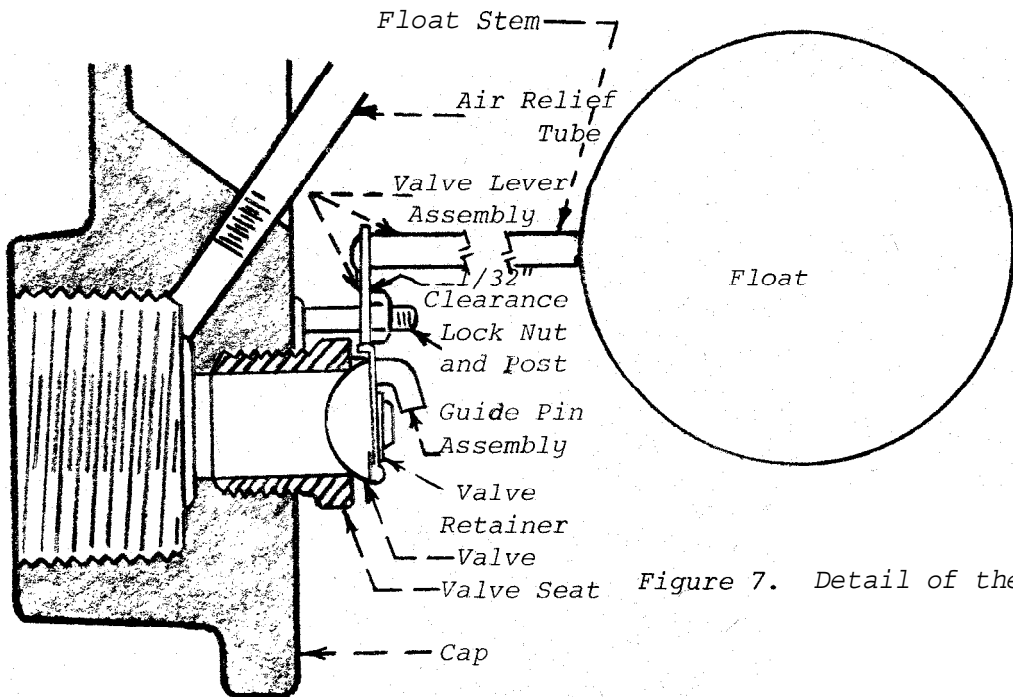

Figure 7. Detail of the mechanism
- 6) Hold the valve in the valve seat with the lever's two fulcrum points resting on the face of the valve seat. Using an adjustable wrench, turn the lock nut down on its post until there is approximately $1/32$ " clearance between the nut and the extension of the valve lever which is under the nut. See Figure 7.